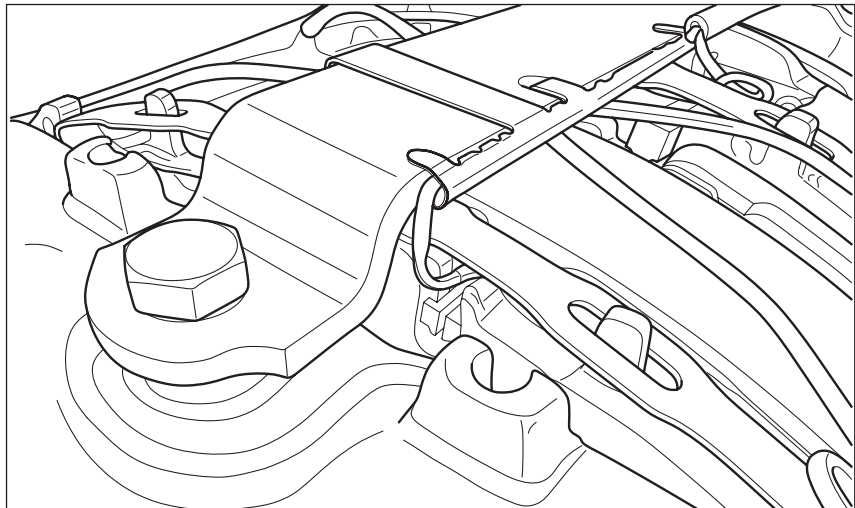

Figure 15
7. Fit pad retainer bolt and tighten to 33-40Nm. (Figure15)